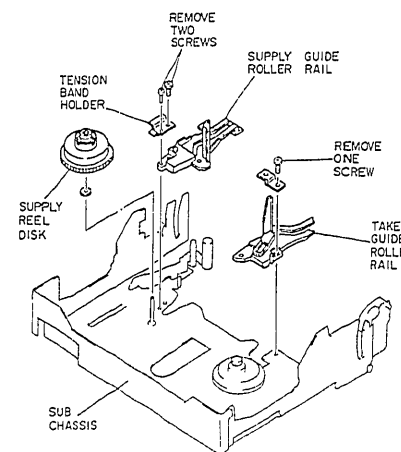

Fig. 2-46
- 2) Remove one (1) screw holding the take-up guide roller rail. (See Fig. 2-46)
- 2) Remove two (2) screws holding the tension band holder and supply guide roller rail. (See Fig. 2-46)